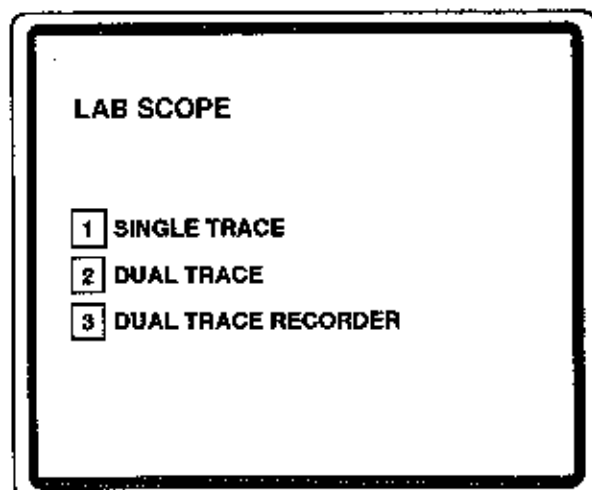

Figure 68
2. The "Lab Scope" menu will appear (see Figure 68). Press [1] to select "SINGLE TRACE."
2. The "Lab Scope" menu will appear (see Figure 68). Press [2] to select "DUAL TRACE."
2. The "Lab Scope" menu will appear. Press [3] to select "DUAL TRACE RECORDER" (see Figure 68).